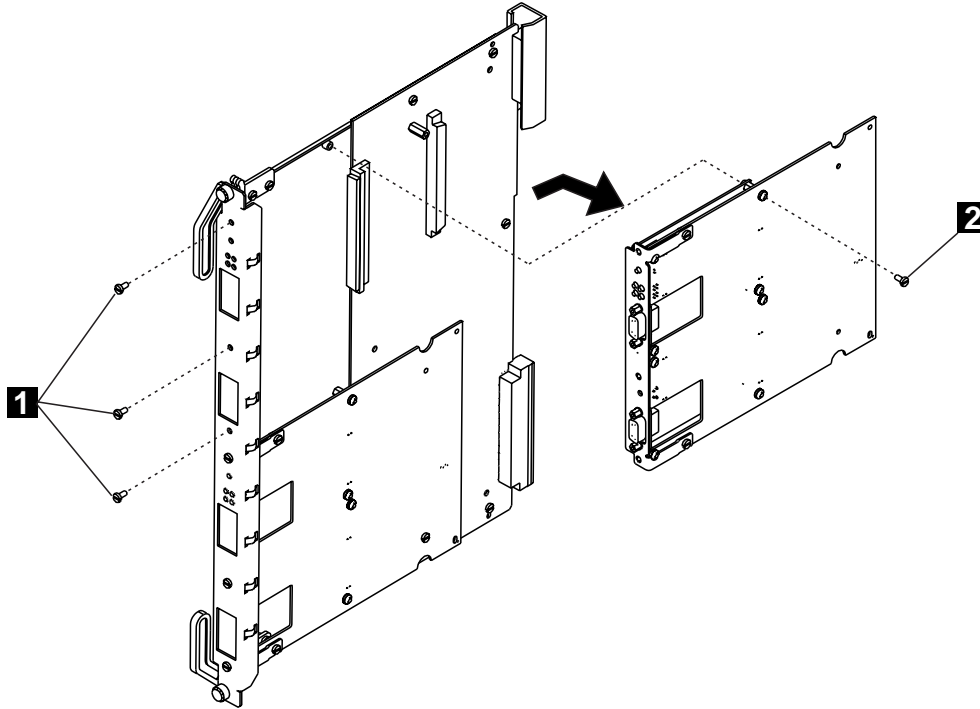

Figure 4-5. Removing the Motherboard
- a** Detach the motherboard by removing the four screws (**1** and **2** in Figure 4-5) that hold the motherboard to the module. Retain the screws for reattaching the motherboard.